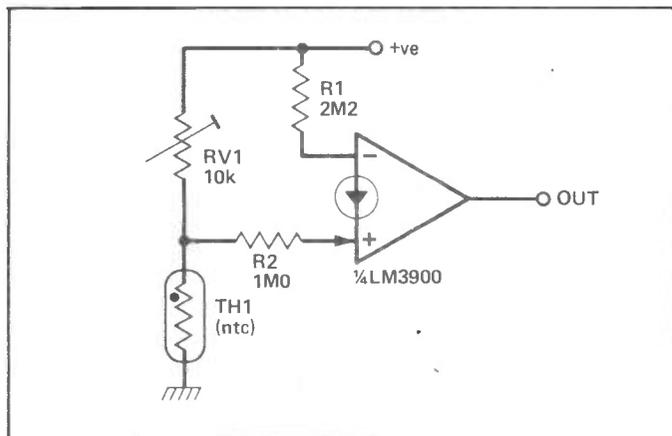

Figure 18: Under-temperature switch.
**Figure 18** shows a useful variation of the above circuit, connected as an under-temperature switch. In this case the reference (inverting) current is derived from the supply rail via R1, and the variable (non-inverting) current is again derived from the RV1-TH1 junction. Since, however, the R1 value is (approximately) double that of R2 and generates a current that is proportional to the supply rail voltage, the trip point of this circuit is also independent of variations in supply rail voltage.